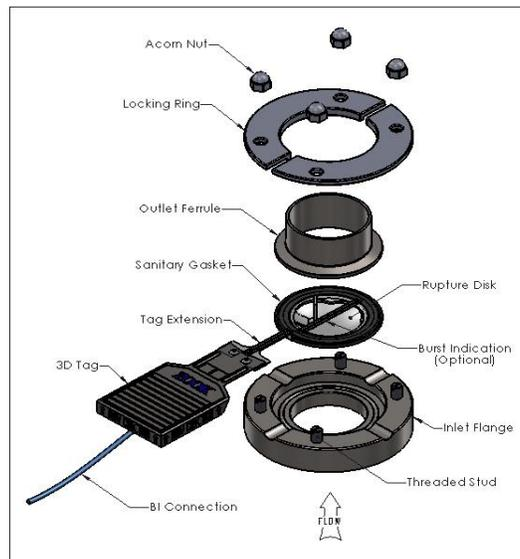

Figure 2
- j) **FOR NA CONNECT STYLE INSTALLATION (Figure 2):**